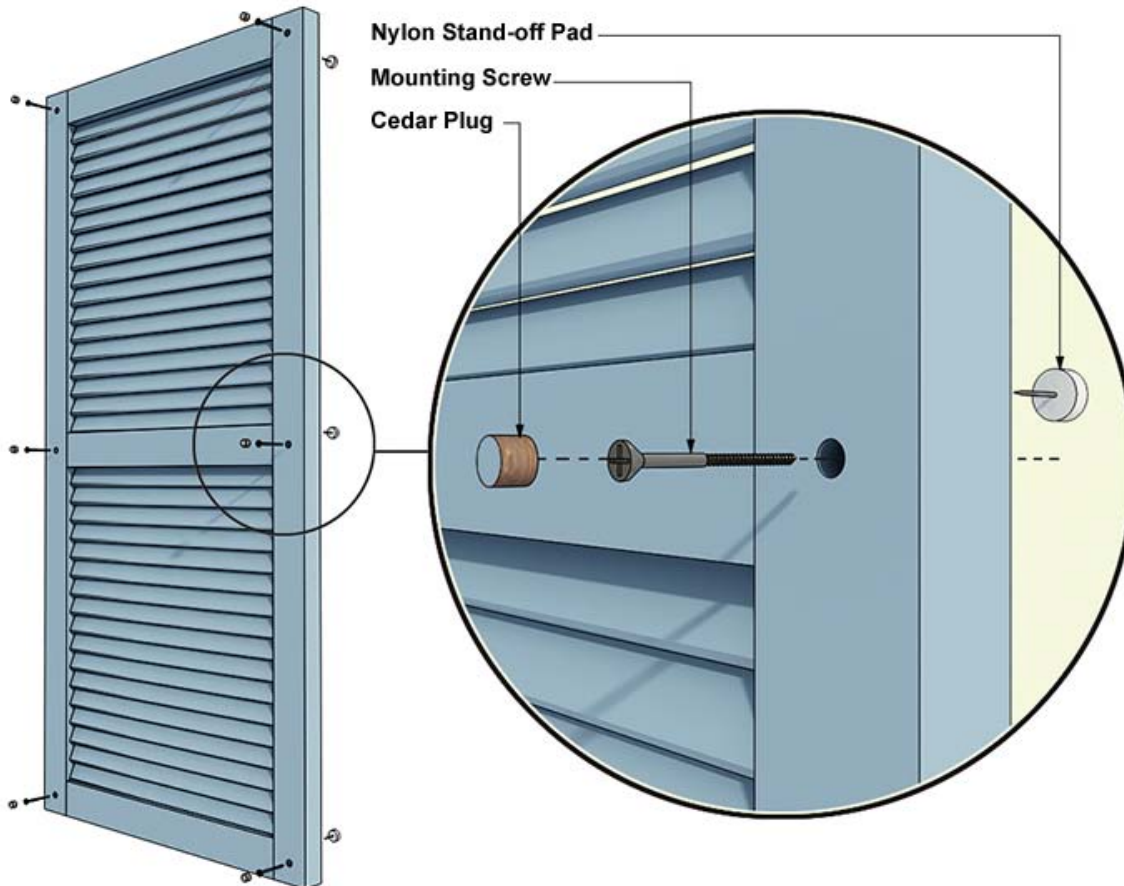

Figure 1 – Direct Mount Kit Installation
5. The nylon stand-off pads will need to be installed on the highest points that come into contact with the shutter. With lap siding, this will typically be the bottom of each lap. Mark the shutter where it comes in contact with the surface at 3 points on each side stile (see figure 1) for later installation of the stand-off pads. Note that the pads must be offset slightly from the screw holes.